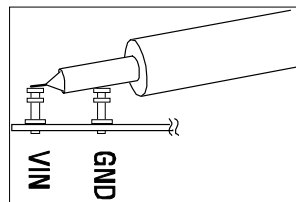

Figure 2. Measuring Input or Output Ripple
**NOTE:** When measuring the input or output voltage ripple, care must be taken to avoid a long ground lead on the oscilloscope probe. Measure the input or output voltage ripple by touching the probe tip directly across the Vin or Vout and GND terminals. See the proper scope probe technique in figure 2.
- Set the load current of both outputs to 3A and the input voltage to 5.5V, and then measure each output ripple voltage (refer to figure 2 for proper measurement technique); they should each measure less than 30 mVAC. Also, observe the voltage waveform at either switch node of each regulator. The switching frequencies should be between 1.6 MHz and 2.4 MHz ( $T = 625$  ns and 417 ns). In all cases, both switch node waveforms should be rectangular in shape, and 180 out-of-phase with each other. Change the shunt position on header J5 to set the switch waveforms in phase with respect to each other. To operate the ckt.s in Burst Mode™ or pulse-skip mode, change the shunt in header J7. When finished, insert shunts XJP1 and XJP2 to the OFF position(s) and disconnect the power.